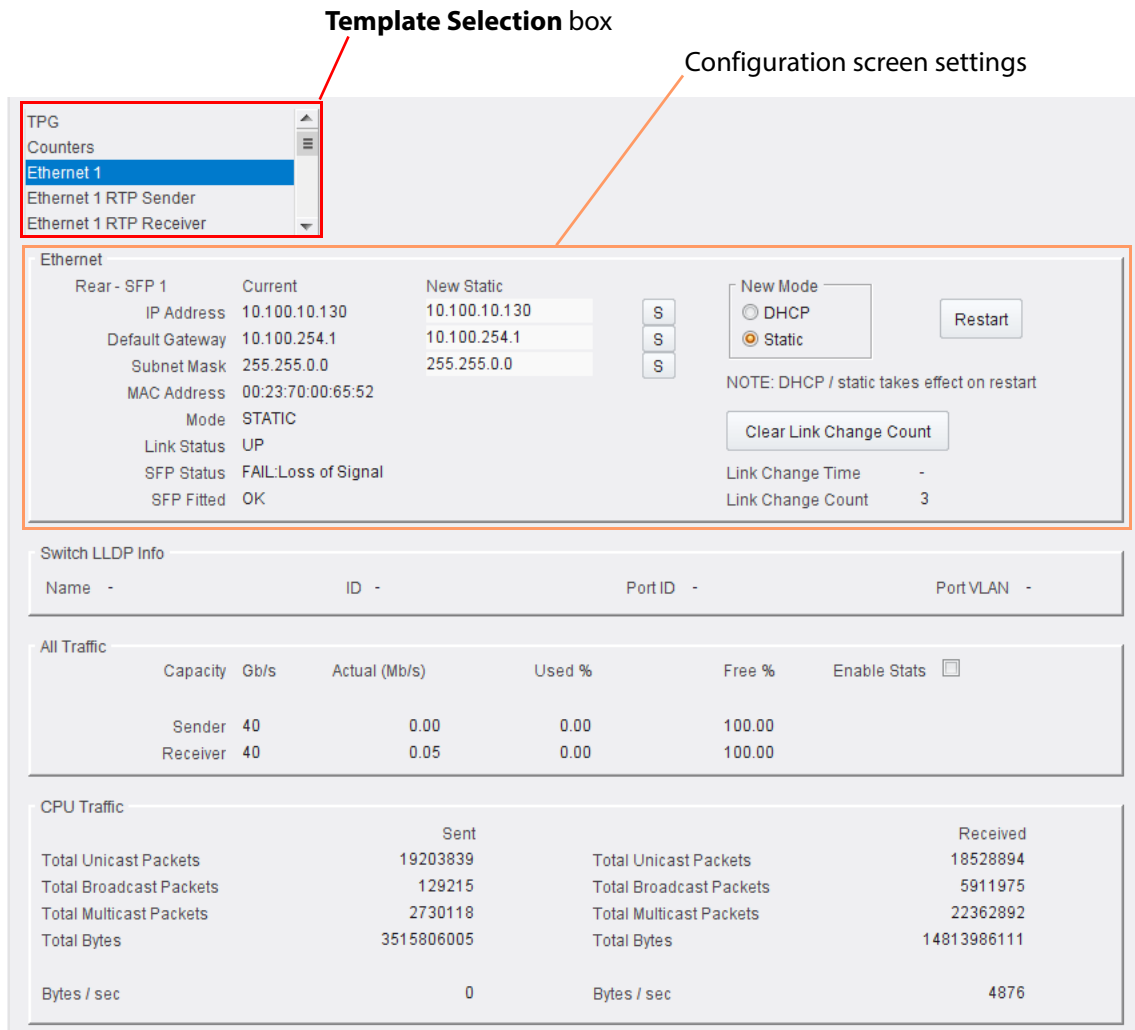

Figure 276 Ethernet Template (Ethernet 1 Template of 5960 shown)
See Figure 276.
6. In the **Template Selection** box, scroll down to the '**Ethernet 2**' item and double-click on it to open the RollCall template. (It is similar to the 'Ethernet' 1 template shown in Figure 276.)